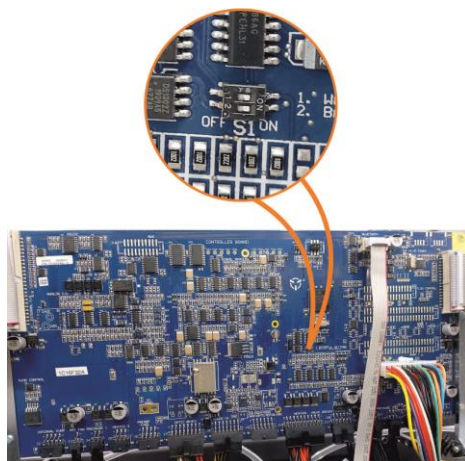

Figure 38 – Switching the Battery ON/OFF
3. Refer to Figure 38. Check that the battery switch is turned ON at the main controller PCA.
3. Refer to Figure 38. If storing over a long period (six months) turn the battery OFF by moving the switch (S1) on the main controller PCA.